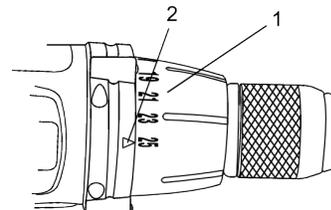

Fig. 1
1. Identify the torque settings located on the torque adjustment ring (1) (Fig. 1).